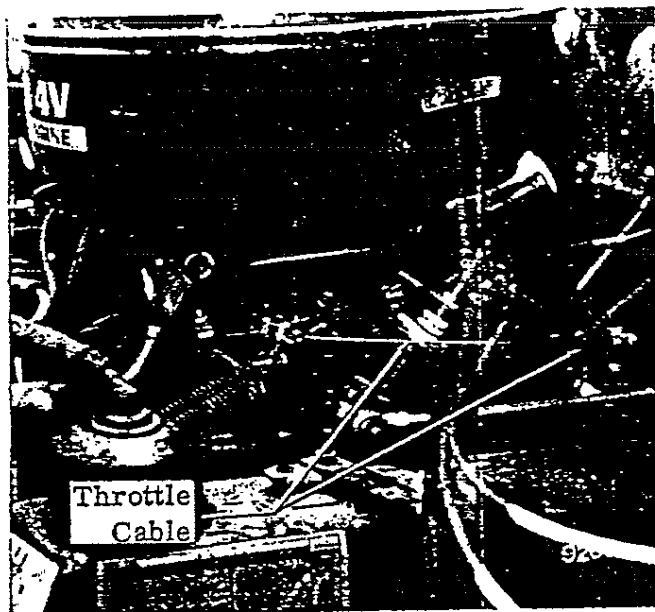

Figure C-7. Underhood Throttle Control Installation
4. The cable should come toward the throttle linkage in a straight line to avoid binding (Figure C-7).